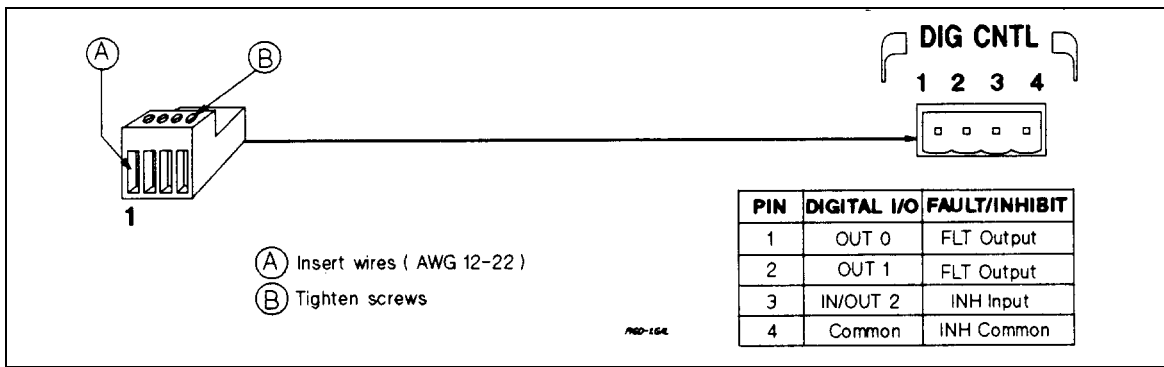
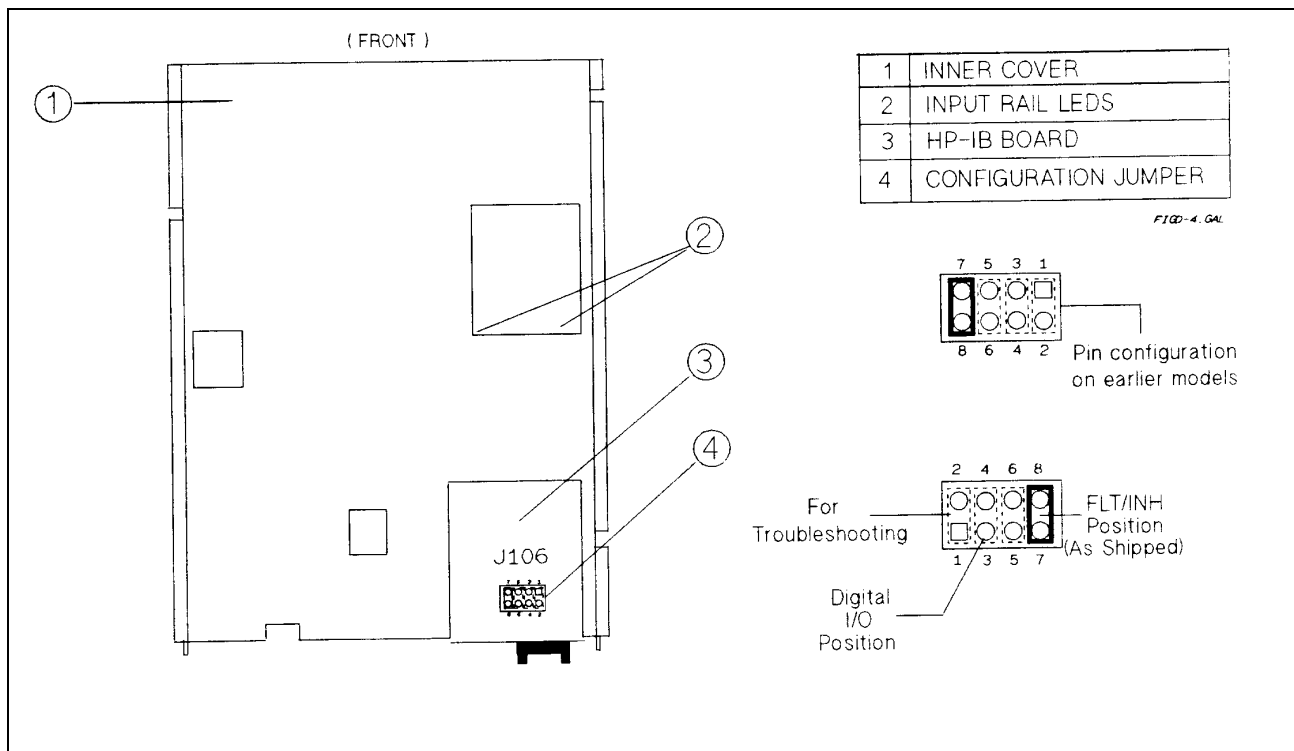
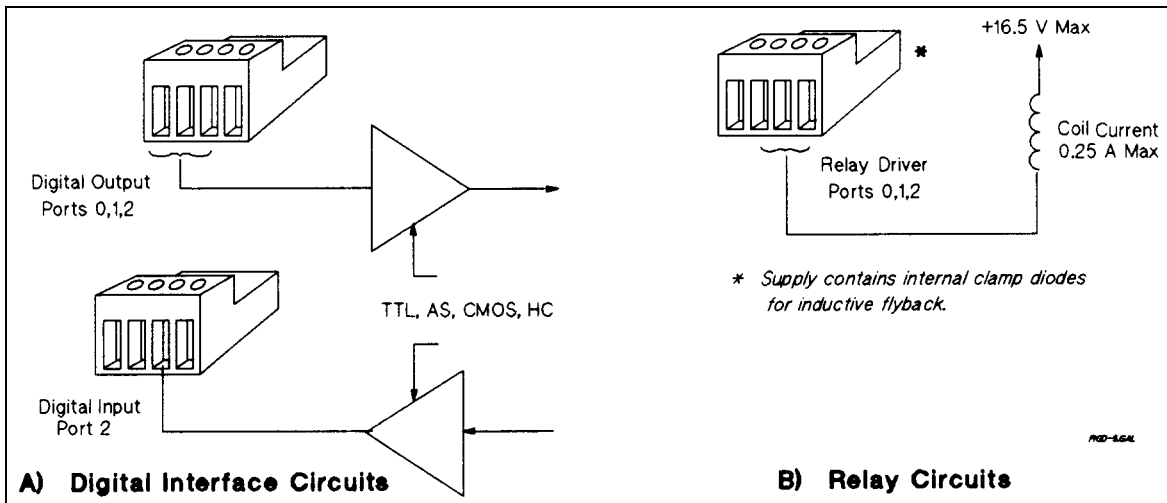

Figure F-1. Digital Port Connector
Figure F-4. Digital Port Configuration Jumper
Figure F-5. Digital I/O Port Applications
A 4-pin connector and a quick-disconnect mating plug are provided for digital input and output signals (see Figure F-1 for wiring connections, and Table A-2 for electrical characteristics). This digital port can be configured to provide either Fault/Inhibit or Digital I/O functions.
As shipped from the factory, the digital port is configured for FLT/INH operation. You can change the configuration of the port to operate as a general-purpose digital input/output port to control your custom circuitry as shown in Figure F-4. To change the port configuration, you must move a jumper on the GPIB board.
5. Refer to Figure F-4 and use needle-nose pliers to move the jumper to the Digital I/O position.
The digital port can be configured (see Figure F-4) to provide a digital input/output to be used with custom digital interface circuits or relay circuits. Some examples are shown Figure F-5. See Figure F-1 for the pin assignments of the mating plug and Appendix A for the electrical characteristics of the port. See **DIG:DATA[:VAL]** in "Chapter 7 - Language Dictionary" for information on programming the port. The digital port pins are as follows:
The digital port can be configured to provide relay control outputs for the HP 59510A or 59511A Relay Accessory. Refer to Figure F-1 for the pin assignments of the mating plug.